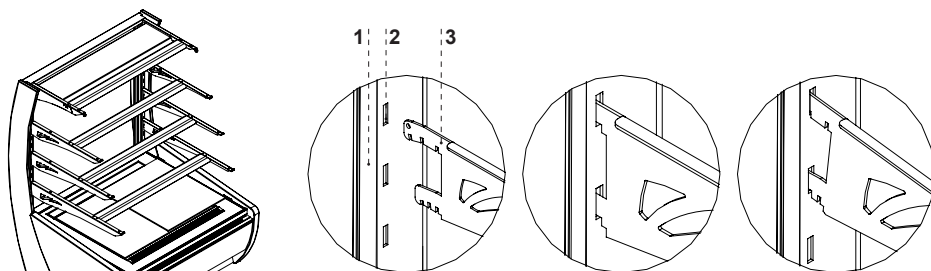

Fig.6 Mounting hooks on the rack
- 2 – Install the hooks together with the lighting in the rack Fig.6 (p.60)